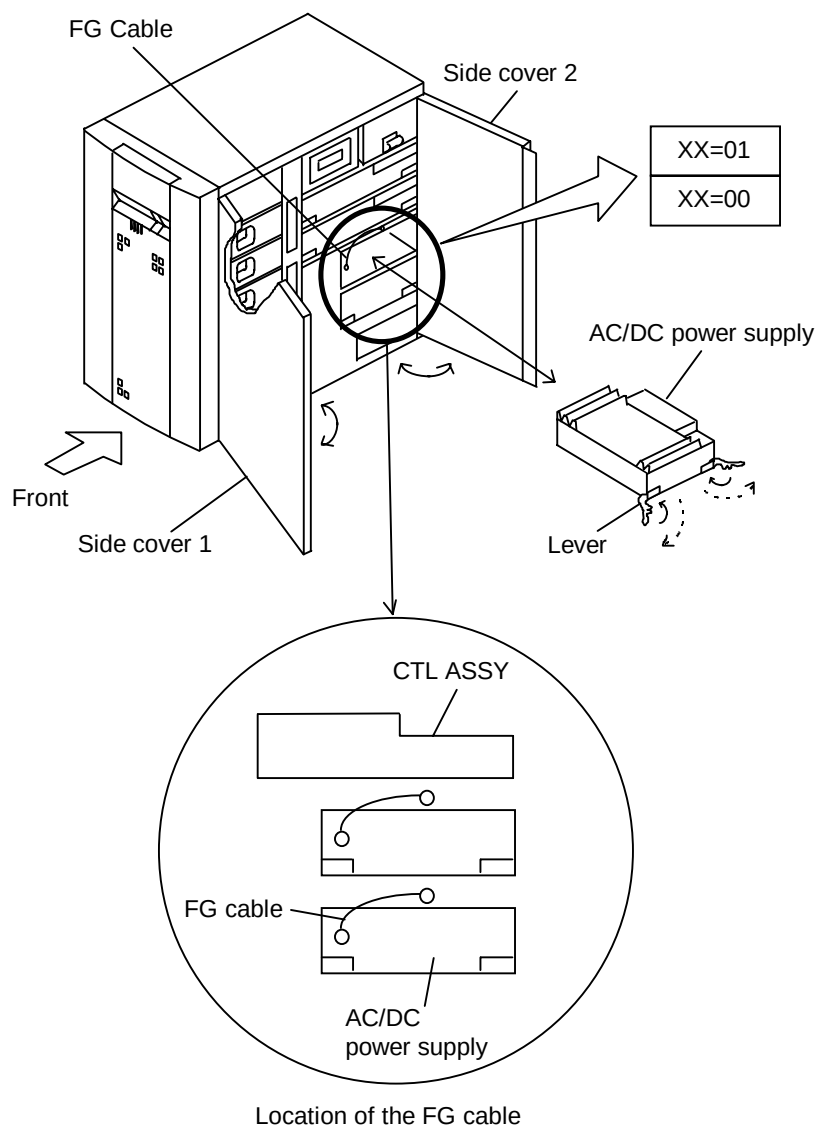

Figure 11.1 Replacing AC/DC power supply
11. Replacing AC/DC power supply (See Figure 11.1.)